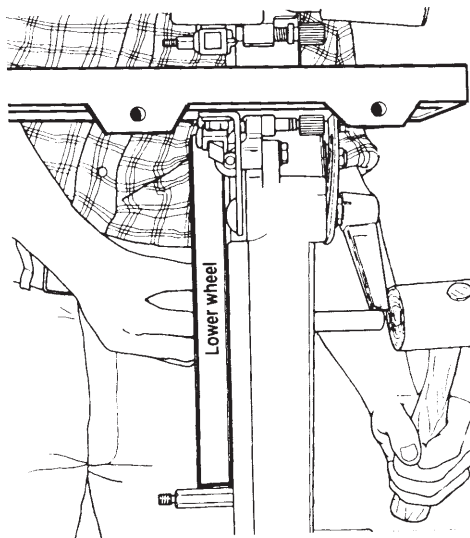

Fig. C-10
2. Remove the wheel. To remove the upper wheel, follow the procedure described in Lubricating the Bandsaw. To remove the lower wheel, first remove the drive hub or pulley from the drive shaft, then the bearing retainer from inside the machine. (The retainer is directly behind the wheel,) Tap the end of the drive shaft with a wooden or rawhide mallet to loosen the bearing in the frame, then pull the wheel free, as shown in Fig. C-10.